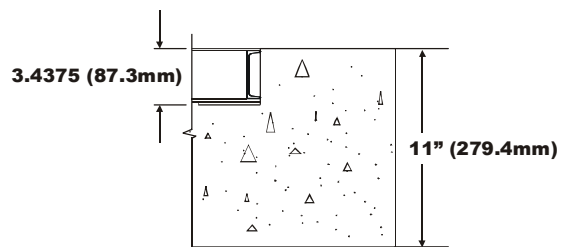

FIG. 23 FOUNDATION FOR A PIT FRAME
- If a drain is required, form the pit to place a slope in the pit floor to the drain. (See Fig. 23)